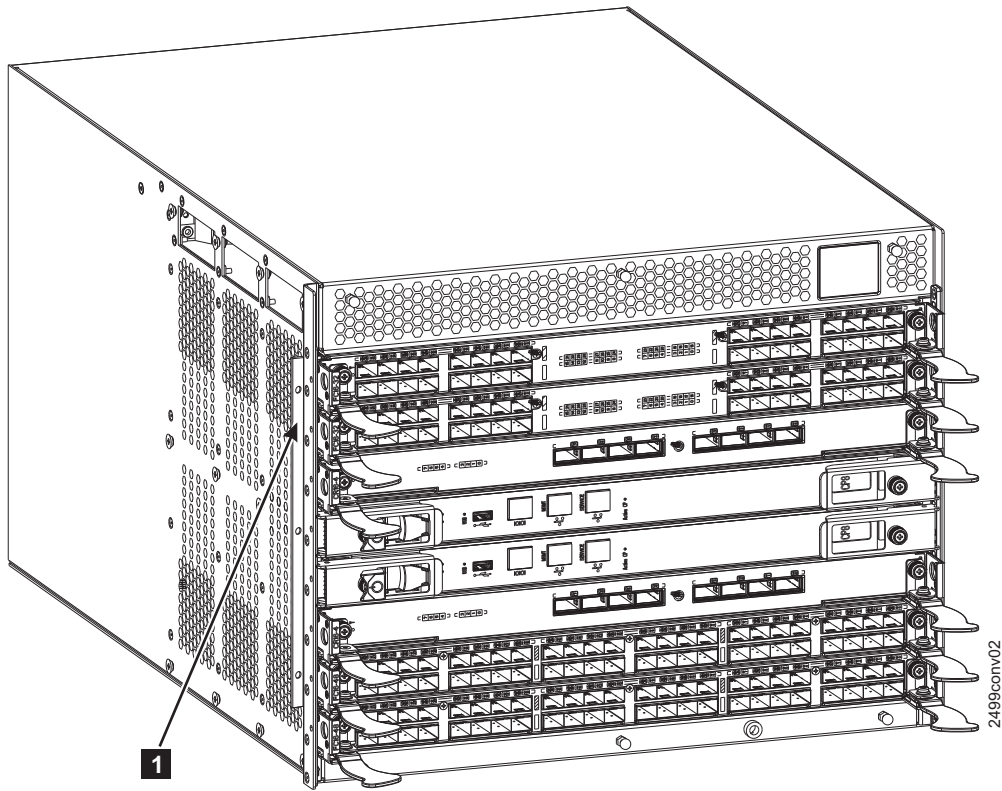

Figure 12. 2499-416 port side new model label location
2. Apply the new model label on top of the existing model label. See **1** in Figure 12 on page 25 for the approximate location on the 2499-416 chassis flange (shown without the cable management finger assemblies or the cabinet rails).